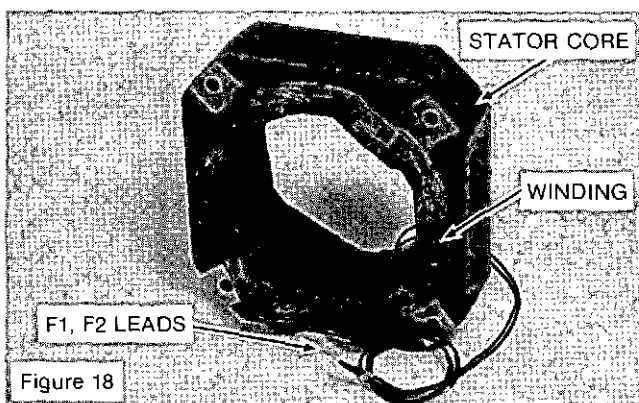

Figure 18
1. Clean dust and dirt from the stator winding with a soft cloth or brush. (See Figure 18.) (See *cleaning methods under Preventative Maintenance.*)